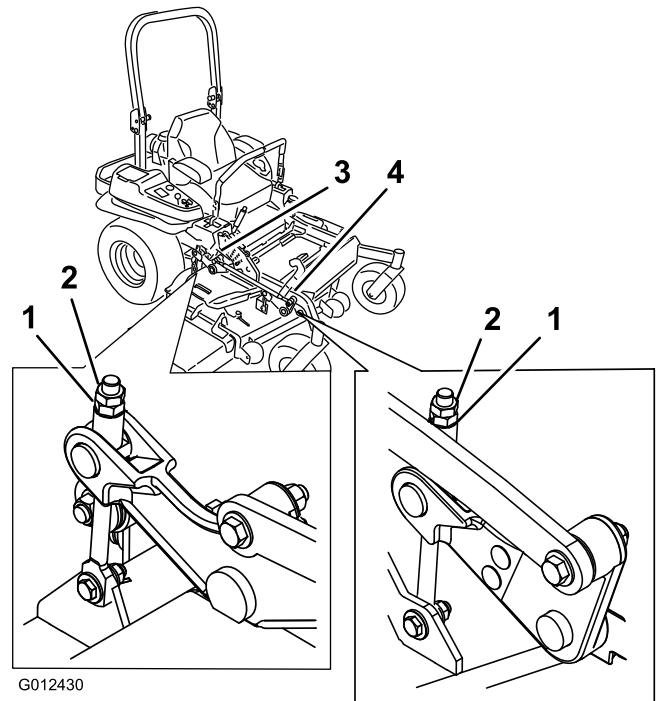

Figure 86
10. Fine-tune the adjustment nut on the front deck lift assembly by turning it (Figure 86).
- Fine-tune the adjustment nut on the front deck lift assembly by turning it (Figure 86).